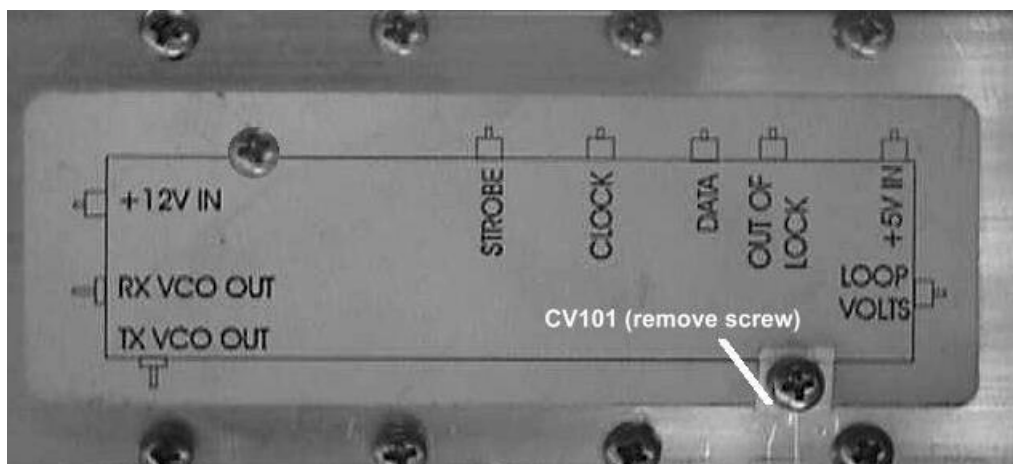

Figure 7.24: Location of Loop Volts adjustment CV101
2. Remove the bottom cover and refer to Figure 7.24 below to identify the location of the Loop Volts output feed-through capacitor in the local oscillator module. Check with a digital multi-meter (DMM) that the VCO Loop Volts measurement is within the range of 3 to 4 Volts DC.
If necessary, reset this by adjusting VCO trimmer capacitor CV101 as indicated in Figure 7.24 below. (It will be necessary to remove the screw in the aluminium block to access the trimmer. Always replace this screw after adjustment).